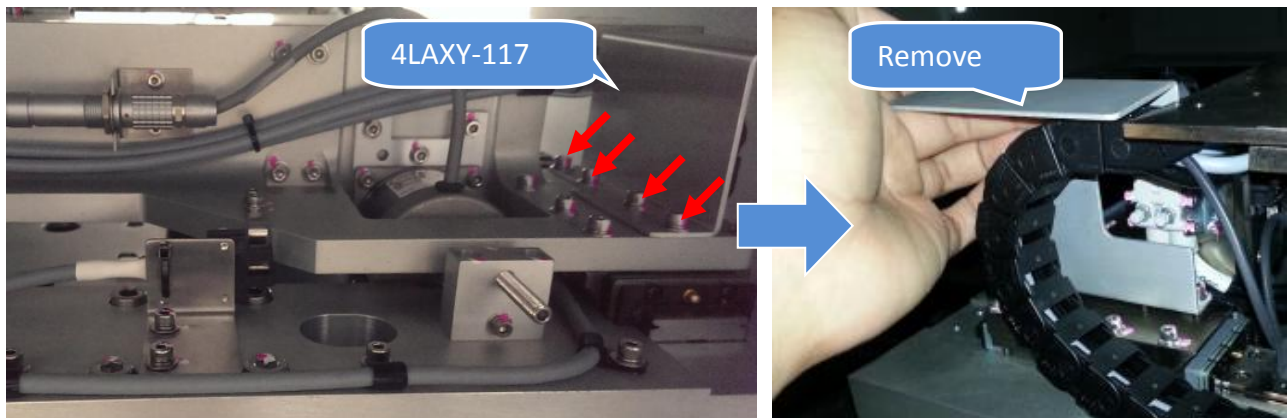

Figure 6 Chain Bracket Removal
10. Loosen 4 x Screws and remove CHAIN BRACKET (P/N, 4LAXY-117) as below Figure 6